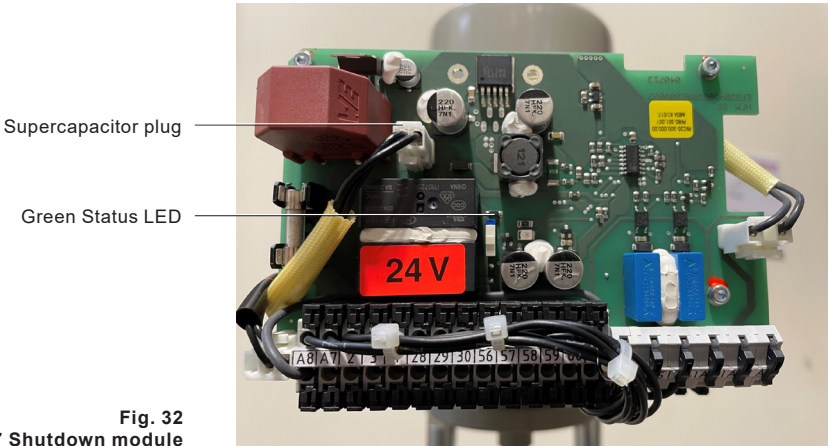

Fig. 32
- Identify and disconnect the supercapacitor plug from the Shutdown Module board (Figure 32)